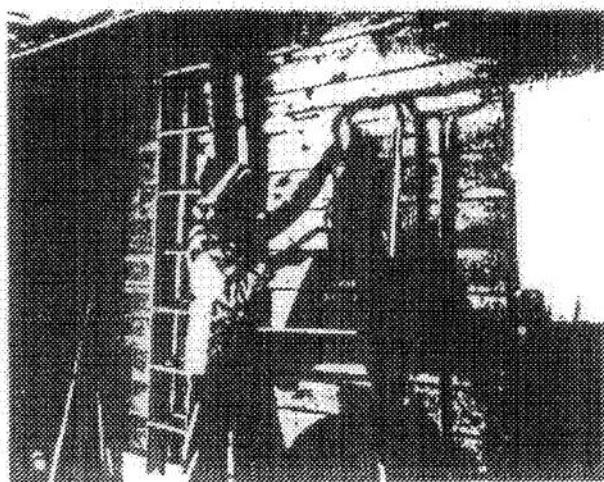

Figure 13
8. Move vanes to vertical position when storing snowblower. Hang snowblower up by upper handle for convenient storage (Fig. 13).